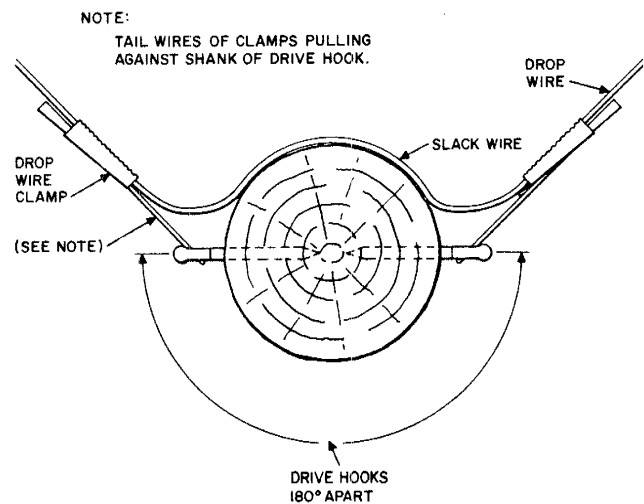

Fig. 5—Turning Outside Corner
3.06 On outside corner poles where the angle would cause the drop wire to rub against the pole, use two drive hooks to support the wire as shown in Fig. 5.